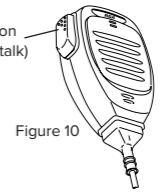

Figure 10
1. Hold the microphone about 2" from your mouth when speaking and press the **[PTT]** (push to talk) button. (Figure 10) The red LED lights during call.
2. Release **[PTT]** to return to the receive/listen (RX) mode. To receive your radio must be switched to the proper channel and set with matching signaling or Color Code and Group ID if used in digital mode.